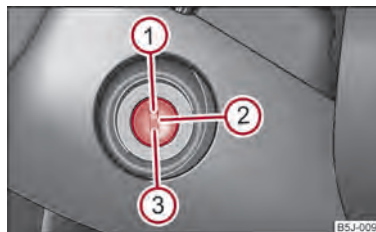

Fig. 78 Ignition lock positions
- The engine can be switched off by turning the ignition key into position  ⇒ fig. 78.